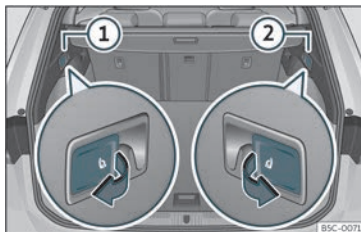

Fig. 112 In the luggage compartment: levers to unlock the rear backrest.
- Pull the remote release lever of the left part **»» Fig. 112 ①** or right part **②** of the backrest in the direction of the arrow. The released part of the rear seat backrest is folded automatically down and forwards.